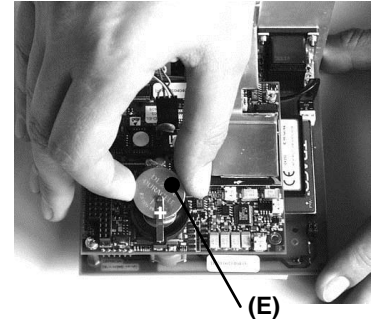

Fig. 2.5.6
- Now, the battery can be pulled out (Fig. 2.5.6).